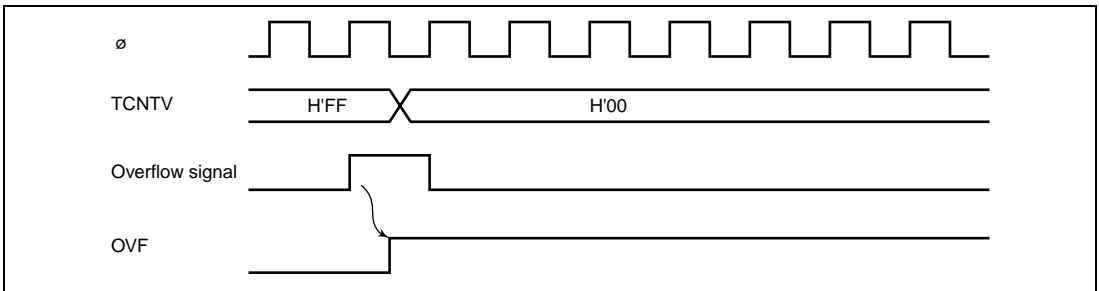

Figure 11.4 OVF Set Timing
2. When TCNTV overflows (changes from H'FF to H'00), the overflow flag (OVF) in TCRV0 will be set. The timing at this time is shown in figure 11.4. An interrupt request is sent to the CPU when OVIE in TCRV0 is 1.